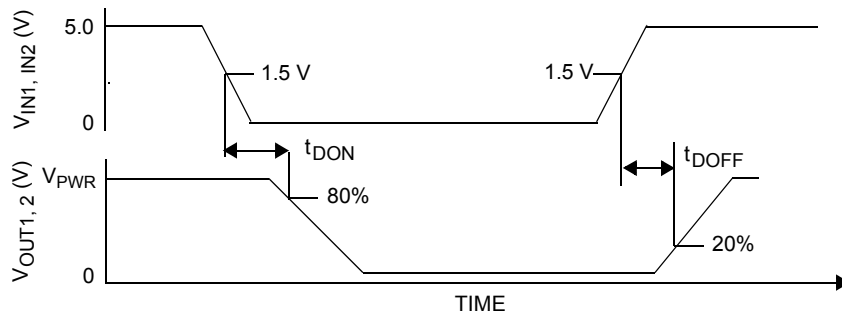

Figure 4. Output Delay Time
22. * Output Delay is the time duration from 1.5 V on the IN1 or IN2 input signal to the 20% or 80% point (dependent on the transition direction) of the OUT1 or OUT2 signal. If the output is transitioning HIGH-to-LOW, the delay is from 1.5 V on the input signal to the 80% point of the output response signal. If the output is transitioning LOW-to-HIGH, the delay is from 1.5 V on the input signal to the 20% point of the output response signal. See Figure 4, page 9.